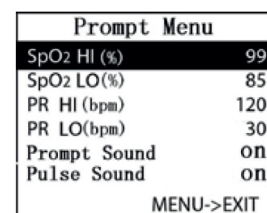

Figure 10. Setting for sound prompt
Under main menu, press the “up button” or “down button” to select “Prompt”, then press the “left button” or “right button” to enter its setting interface shown in Figure 10.
- The values displayed in Figure 10 are the initial values of over-limit prompt.